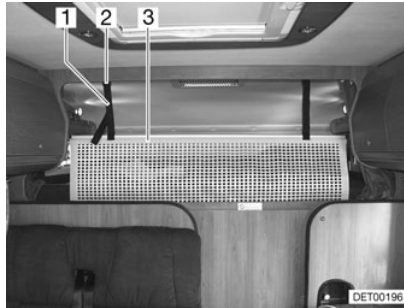

Fig. 36 Overcab bed
Safety net The safety net (Fig. 36,3) is stored as standard between the mattress and slatted frame. Only use the safety net if persons are already in the alcove.
- Fasten the retaining straps (Fig. 36,1) to the holders on the ceiling (Fig. 36,2).